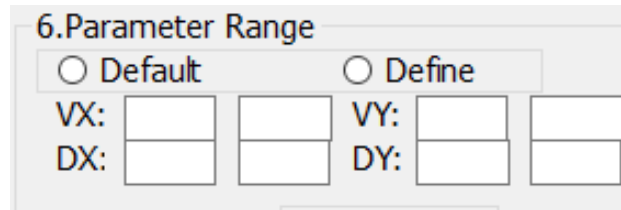

Figure 2.16. Parameter Ranges panel in GUI
The parameter range corresponds to internal parameter ranges that may be modified by an expert in oceanography or Bayesian modeling with the aim of optimizing the precision and accuracy of the prediction based on changes in the conditions of the modeling scenario or the specifics of a known situation given the occurrence of an oil spill. The default input may be modified every time SOSim is launched if the default ranges need to be changed. SOSim provides two options: *'Default'* and *'Define'* in Figure 2.16. The default parameter ranges are in Figure 2.17. These parameter ranges account for conditions in all ocean waterbodies. For sunken oil, SOSim's default parameter ranges in river settings differ from the default ranges in oceanic settings. To view the Parameter Range default, go to the *'Options'* menu of SOSim and click on *'Default Settings'*. Click the *'Parameters Range'* in the tabbed widget to view the default settings. For a river spill, the velocity range is -67.1 to 67.1 and -2.4 to 2.4 km/d in the x and y directions and the diffusion coefficient is 0.01 to 0.6 and 0.01 to 0.2 km2/d in the x and y directions. When using the *'Define'* setting as seen
in Figure 2.16, you can define the velocity and coefficient of diffusion based on the available information.
The following descriptions and conditions apply to the buttons in Figure 2.16:
- *'Define'*: When *'Define'* is clicked, the *'VX'*, *'VY'*, *'DX'* and *'DY'* boxes will appear. *'VX'* and *'VY'* are velocity in x and y directions. *'DX'* and *'DY'* are diffusion coefficient in x and y directions. The units of *'VX'* and *'VY'* are km/d, and the units of *'DX'* and *'DY'* are km2/d. For example, the blank box closest to the *'VX'* label represents the minimum parameter value for the velocity in the x direction and the blank box furthest from the *'VX'* label represents the maximum parameter value (Figure 2.16).